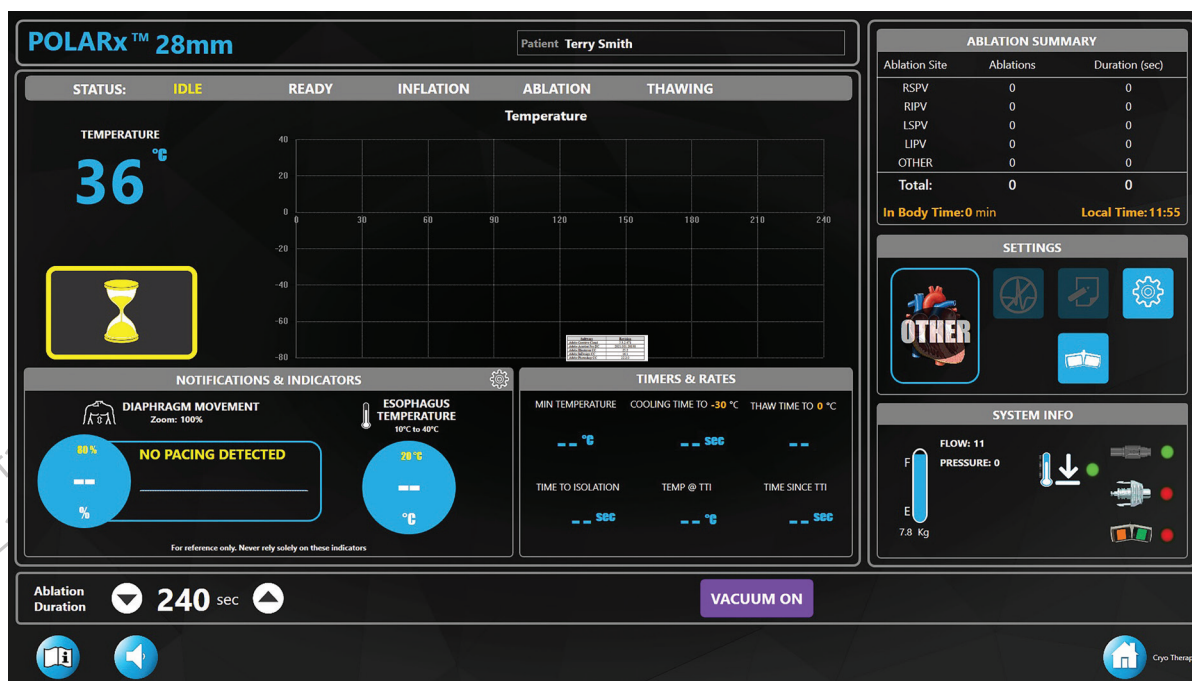

Figure 5. Therapy Screen—IDLE state—valid catheter connected
- Press the **VACUUM ON** button on the Therapy screen (Figure 5).